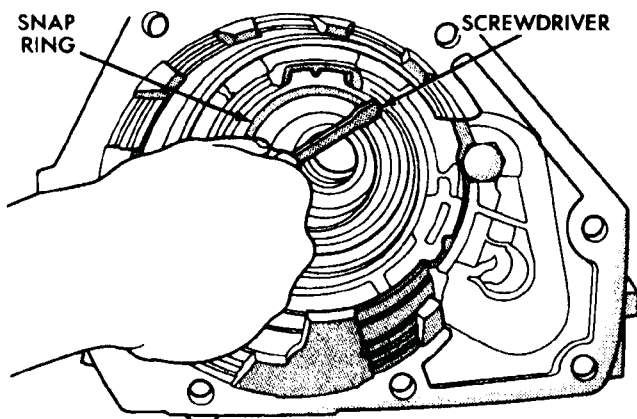

Fig. 73 Governor Support Snap Ring Installation
(17) Install governor support snap ring (Fig. 73).